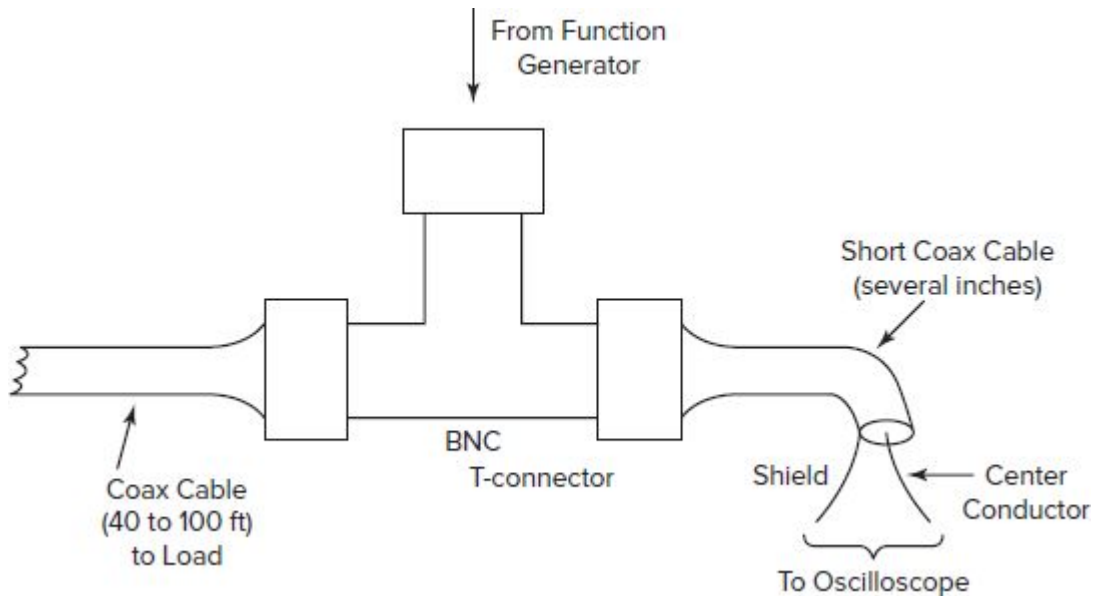

Fig. 13-7 Using a BNC T-connector to make connections between generator, oscilloscope, and cable.
1. Use a piece of RG-58/U coax cable whose length is unknown. The length should be greater than 40 ft but does not have to be longer than about 100 ft. Strip both ends of the cable, exposing the center conductor and the shield braid. Connect small alligator clips to one end of the line to make it quick and easy to connect different values of load resistance. Connect the other end of the cable to the function generator output. You may wish to use a BNC connector on this end of the cable, as most function generators have a BNC output connector. Use a BNC T-connector to provide an output to the oscilloscope. See Fig. 13-7.